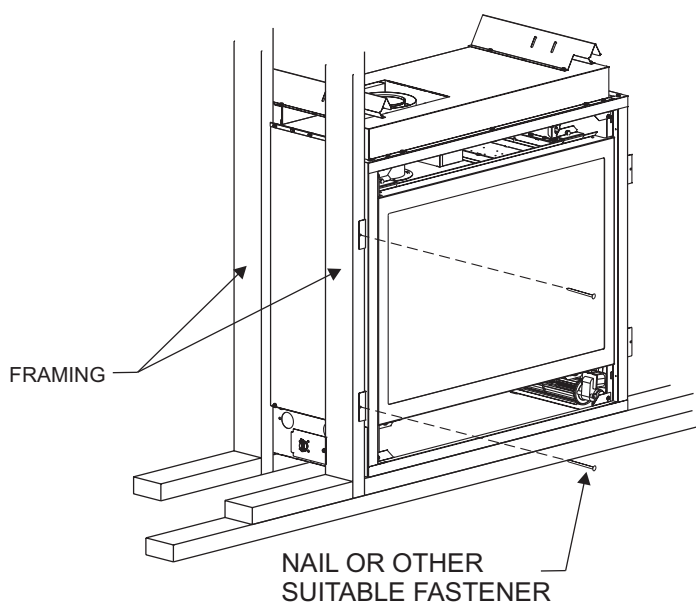

Figure 9
Before setting fireplace into the framed opening, attach the framing brackets to the fireplace and secure to framing. The framing brackets may be installed on the fireplace in the flat state. Once the fireplace is placed into the framed opening, the brackets can be hand bent over the framing and secured. This allows the fireplace to be inserted into the pre-framed opening. Different hole locations can be used for finishing materials with thicknesses of 3/8", 1/2" and 3/4". Secure the brackets with screws provided using two (2) per framing bracket. **See Figure 9.**